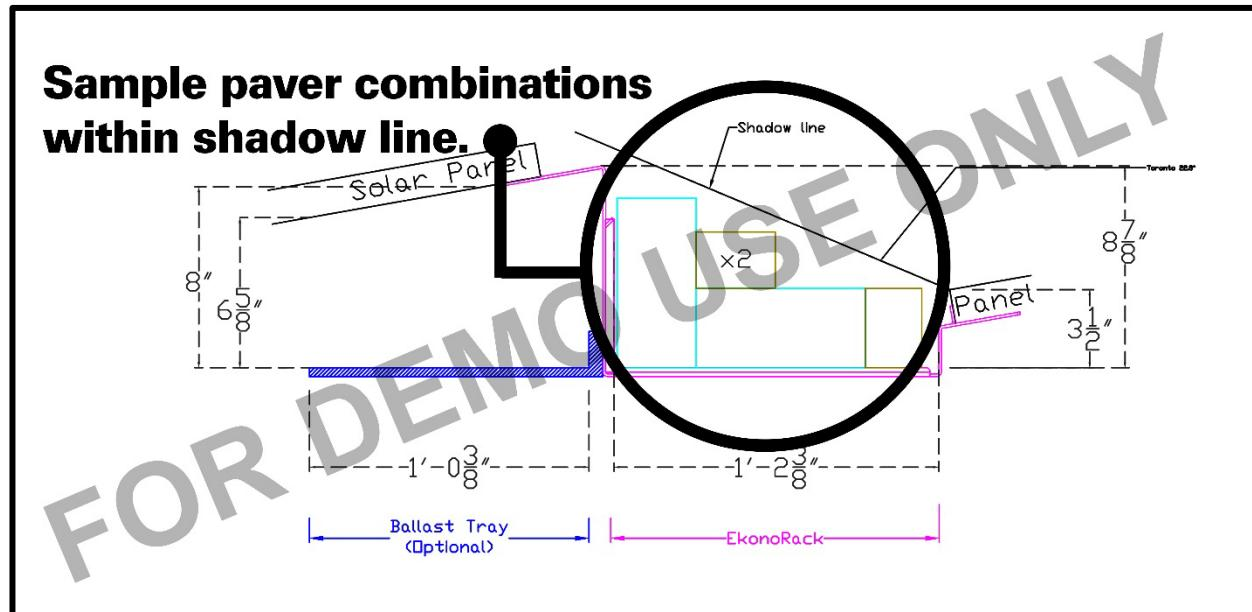

Fig. 7 - Sample Paver Shading Diagram
- 2 Use your project specific *Paver Shading Diagram* to ensure paver combinations do not exceed the shadow line for your project location (see example, Figure 7).